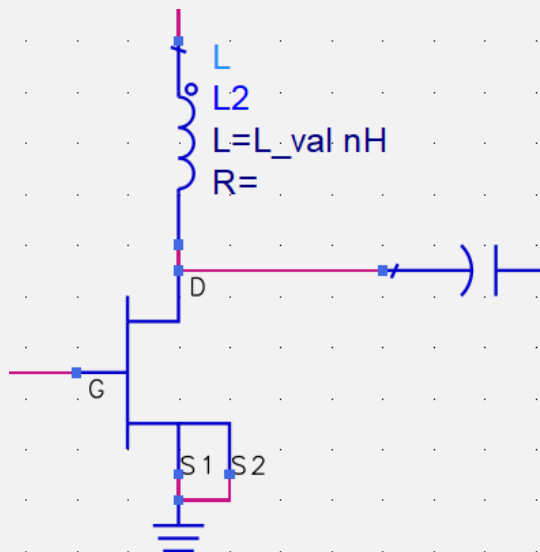

Figure 13. Value of inductor defined as L_val
3. **Push into** the amplifier sub-circuit. Change the drain inductor to **L_val** nH, as shown in Figure 13. It is important to keep the units as nH. Otherwise, the unit would default to Henrys. Using the L_val variable, the inductor initial value will be 1.0 nH, but this will change as we sweep. **Pop out** to the top-level schematic.